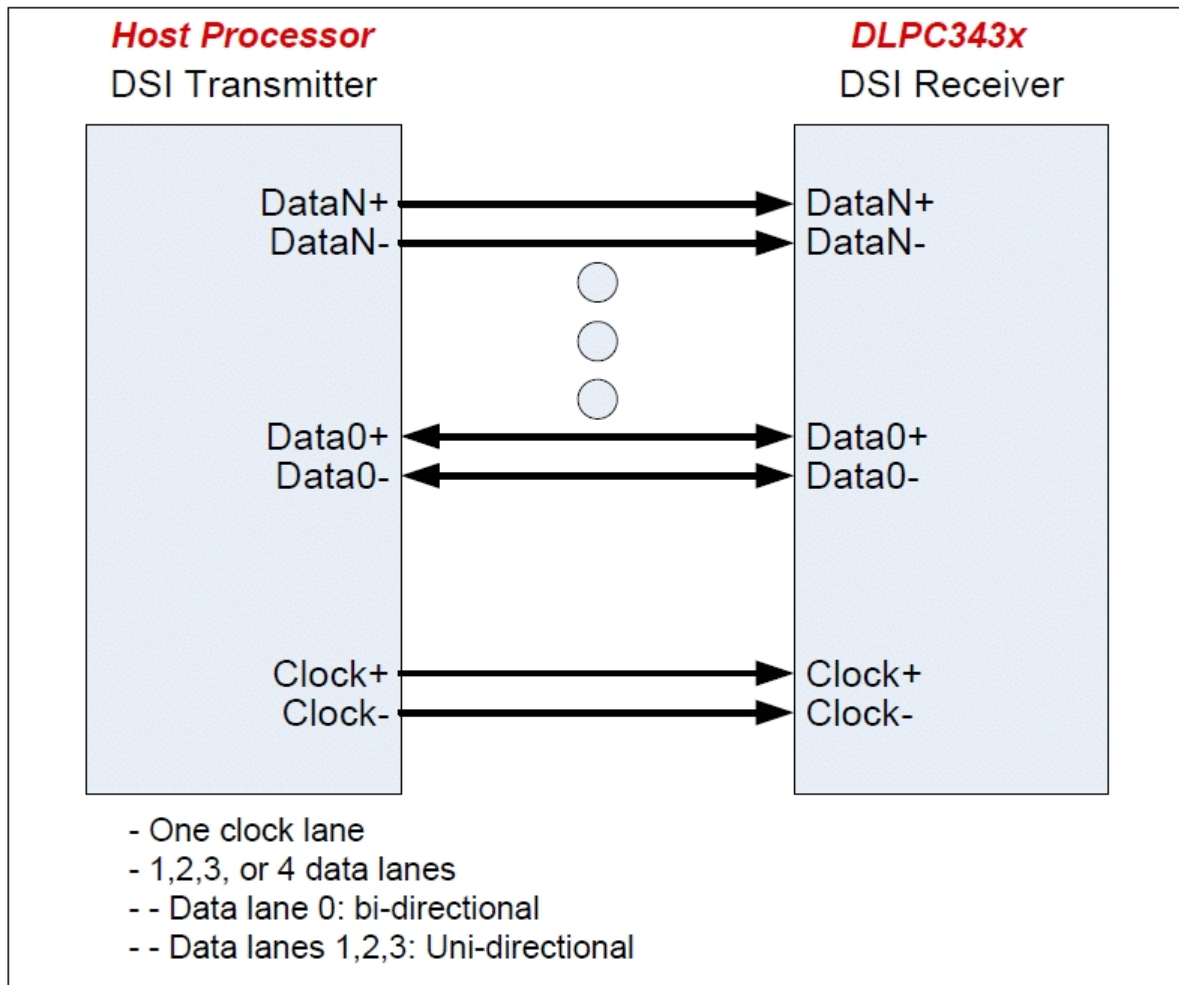

Figure 16. DSI - High Level View
The DPP343x input interface supports the industry standard DSI Type-3 LVDS video interface up to 4-lanes. DSI is a source synchronous, high speed, low power, low cost physical layer. The DSI-PHY unit is responsible for the reception of data in High speed (HS) or reception / transmission of data in Low Power (LP) mode for Unidirectional Data Lanes. Point-to-point lane interconnect can be used for either data or clock signal transmission. The high speed receiver is a differential line receiver while the low-power receiver is an un-terminated, single-ended receiver circuit. Figure 16 shows a single lane module with PPI Interface.